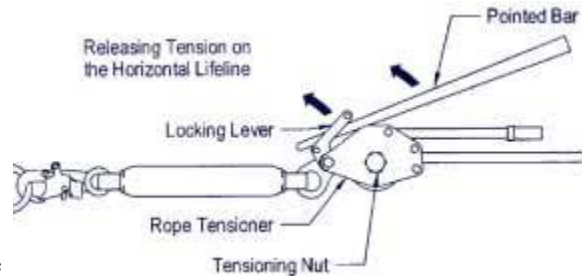

Figure 6
**17. Release Tension on the HLL (Figure 6)**